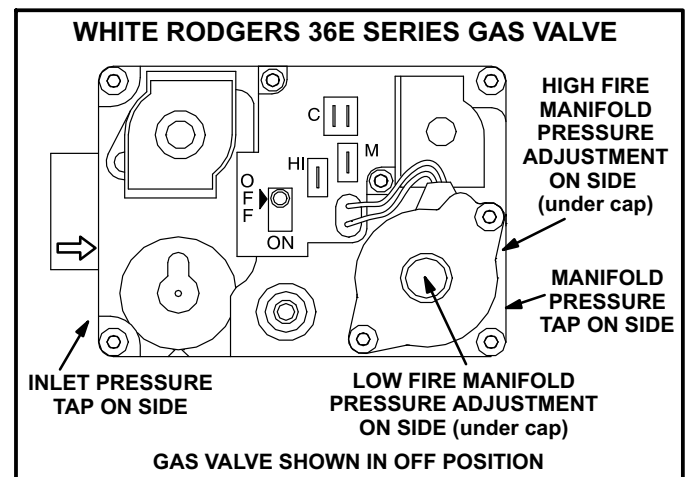

FIGURE 59
Gas Valve Operation (Figures 59 and 60)
- 6 - *White Rodgers 36E Gas Valve* - Move gas valve switch to **OFF**. See figure 59 for the White Rodgers 36E valve.
8 - *White Rodgers 36E Gas Valve* - Move gas valve switch to **ON**. See figure 59 for the White Rodgers 36E valve.